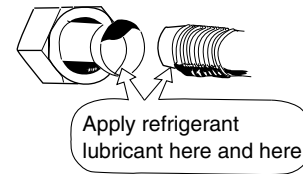

Fig. 7-4
- (1) Apply a sealing cap or water-proof tape to prevent dust or water from entering the tubes before they are used.
- (2) Be sure to apply refrigerant lubricant to the matching surfaces of the flare and union before connecting them together. This is effective for reducing gas leaks. (Fig. 7-4)